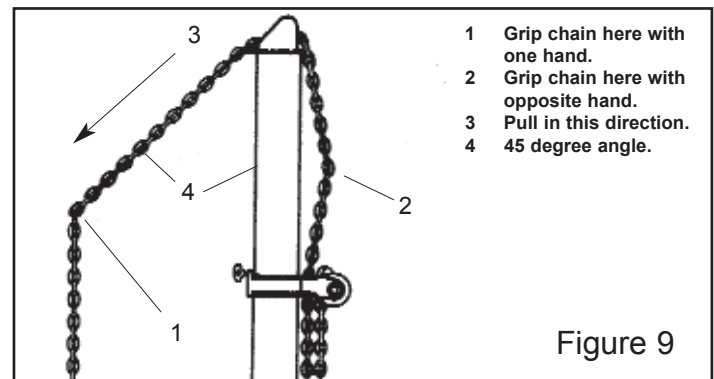

Figure 9
5. To adjust slack tower chain, grip chain on each side of the tower. Lift out on tail of chain until it is approximately 45 degrees from tower. Then disengage chain from tower head and pull chain to either increase or decrease amount of slack, Figure 9.